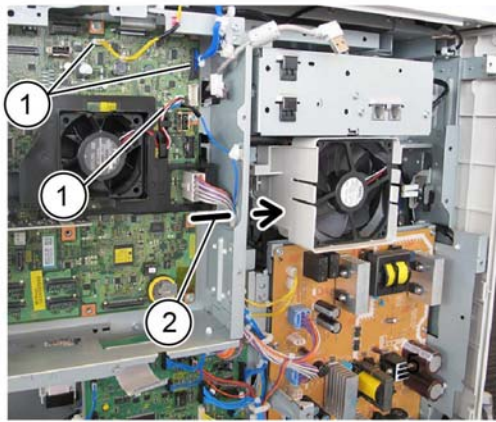

Figure 8 Connectors
9. Disconnect the connectors, **Figure 8**:
- a. Disconnect the three connectors (1), then release the associated harness clamps.
- b. Pull the harness through the hole in the chassis (2).